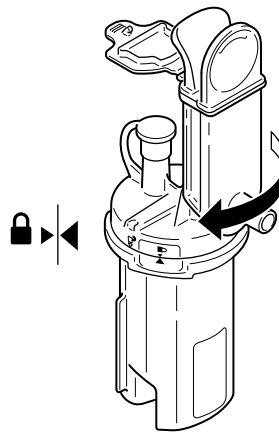

Figure 34 – Reassemble the Manifold
6. To reassemble the manifold, align the tabs and keyed slots of the two halves of the manifold and then twist clockwise until the two halves are locked in place (Figure 34).